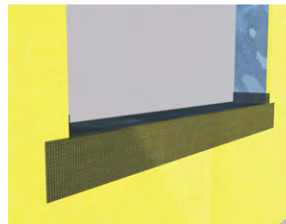

Figure 2
- 3) Immediately lay the AquaFlash Mesh into the wet material and brush smooth adding additional material to completely embed the mesh - Figure 2.